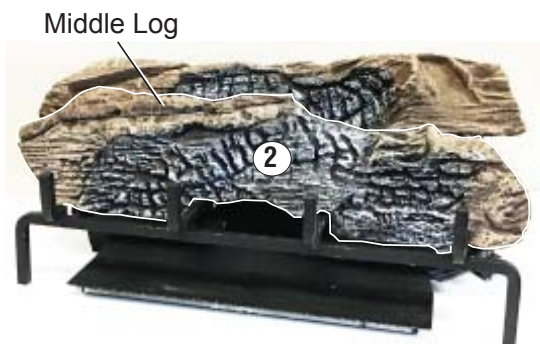

Figure 58 - Installing Log #2
2. Place the middle log (#2) in front of "U"-burner and against the edges of plate as shown in **Figure 58**.